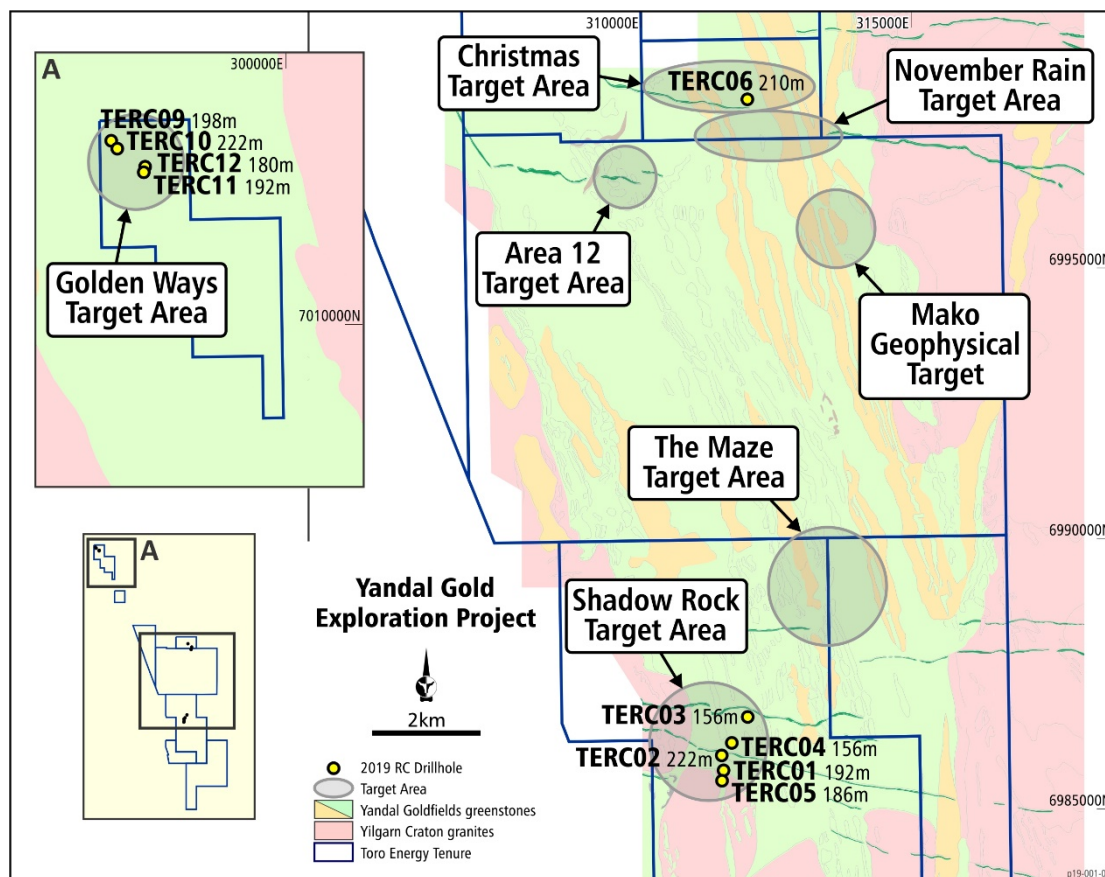
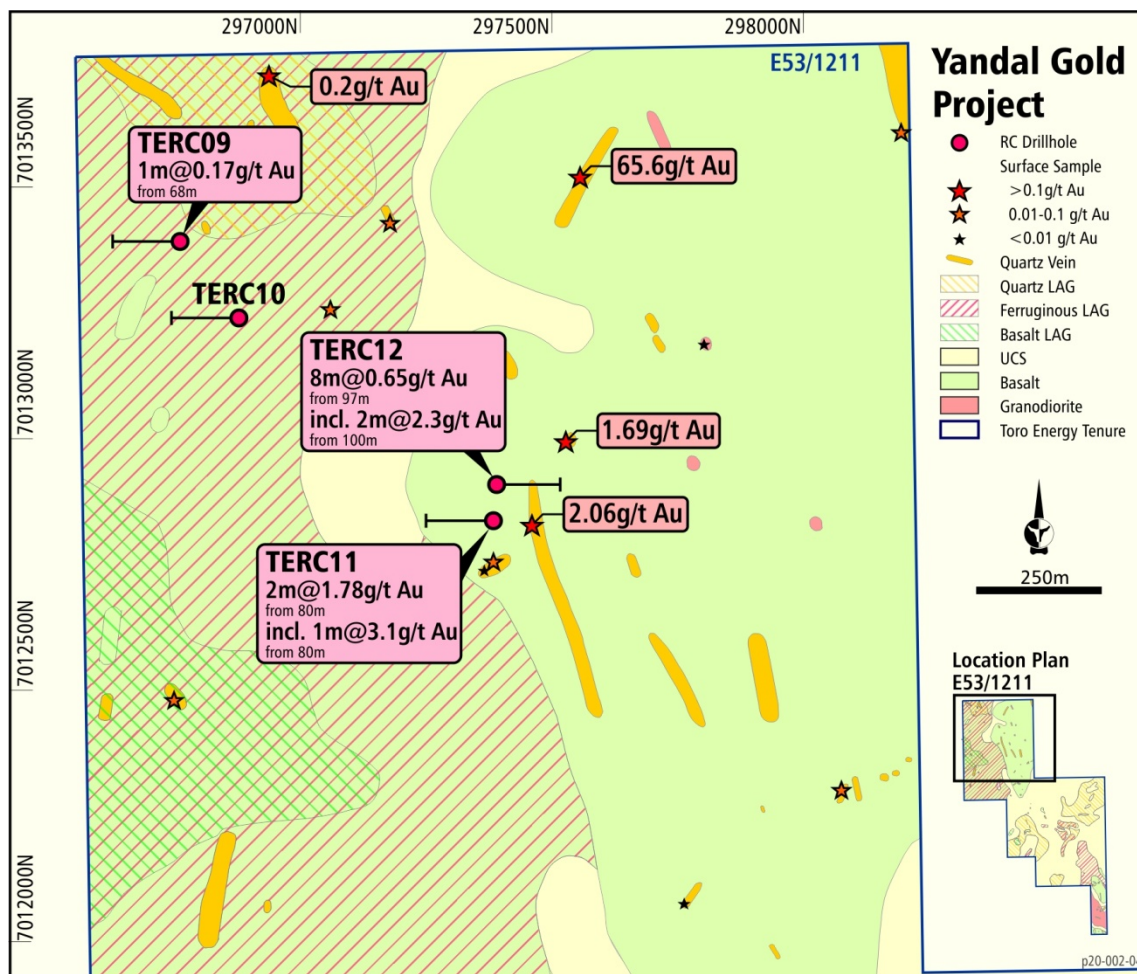

**Figure 1: Location of Toro's Yandal Gold Project within the high yielding Yandal Gold District**
**Figure 2: Location of RC drill holes completed to date in the current drilling programme (see text for details).**
Toro Energy Limited (**ASX: TOE**) ('the **Company**' or '**Toro**') is pleased to announce that geochemistry results from a limited number of surface rock chip samples collected during a recent geological mapping campaign on the Company's 100% owned Yandal Gold Project ('the **Project**') (**Figure 1**) confirm the potential for high grade gold in a significant quartz vein hosted gold system in the Golden Ways Target Area (**Figure 2**).
Toro's 100% owned Yandal Gold Project is located within the world class gold district, the Yandal Greenstone Belt, less than 35km NE of the multi-million ounce Bronzewing Gold Mine (**Figure 1**). The Yandal Gold Project is also only some 50km east of the world class Mt Keith Nickel Mine.
An extensive aircore drilling campaign conducted over late 2018 and early 2019 incorporated only a few of these structural targets (refer to the Company's ASX announcement of 17 October 2018) identified six (6) main target areas for gold exploration, including a number of gold and nickel-copper-platinum group element (PGE) geochemical anomalies in top-of-basement rock. These target areas are now known as Christmas (gold and gold-nickel-copper-PGE anomalies over structural targets), November Rain (gold and gold-nickel-copper-PGE anomalies over structural targets), Area 12 (gold over structural target), Mako (magnetic and gravity geophysical target), The Maze (gold anomalies over structural targets) and Shadow Rock (gold anomalies over structural targets) (**Figure 2**).
| Data spacing & distribution                             | <ul style="list-style-type: none"> <li>Data spacing for reporting of Exploration Results.</li> <li>Whether the data spacing &amp; distribution is sufficient to establish the degree of geological &amp; grade continuity appropriate for the Mineral Resource &amp; Ore Reserve estimation procedure(s) &amp; classifications applied.</li> <li>Whether sample compositing has been applied.</li> </ul>                               | <p>Drilling</p> <ul style="list-style-type: none"> <li>Drilling has been for exploration only, spacing varies between targets. A map of all drill hole locations in the RC campaign referenced in this ASX announcement has been provided in Figure 2 above and the drill hole collar table was provided in the ASX announcement of 13 November 2019.</li> </ul> <p>Surface Rock Chip Sampling</p> <ul style="list-style-type: none"> <li>This was not a systematic rock chip sampling program based on a grid. These samples represent samples taken for the initial use of documenting rocks observed in the field for geological mapping purposes. Therefore, generally, where a vein is sampled, only a single sample has been collected to represent the whole vein, no matter the length or width or perceived significance of the vein. These samples were also not sampled for their perceived gold content. Therefore, the distribution of these samples across the project is relatively arbitrary and to some extent represents the availability of rock outcrop to sample.</li> </ul> |